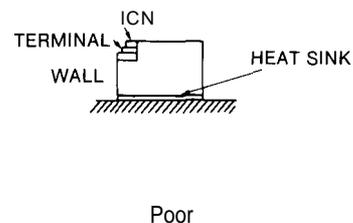

Fig. A8.5 Mounting Direction of Servopack
(3) Mounting Direction
Mount the unit vertically on the wall using the mounting holes (4) on the base plate, with main terminals at the bottom. (Fig. A8.5)